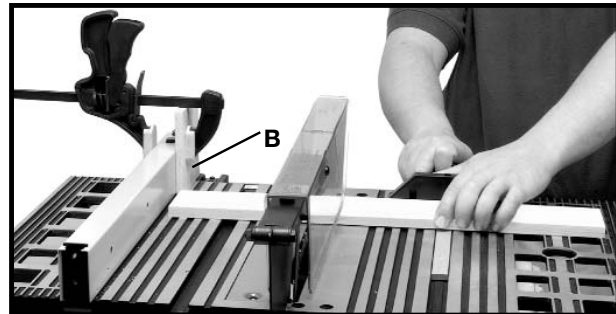

Fig. 42B
When cross-cutting a number of pieces to the same length, a block of wood (B) Fig. 42B can be clamped to the fence and used as a cut-off gage as shown in Fig. 42B. It is important that this block of wood always be positioned in front of the saw blade as shown. Once the cut-off length is determined, secure the fence and use the miter gage to feed the work into the cut. This block of wood allows the cut-off piece to move freely along the table surface without binding between the fence and the saw blade, thereby lessening the possibility of kickback and injury to the operator.
**⚠ CAUTION WHEN USING THE BLOCK (B) FIG. 42B, AS A CUT-OFF GAGE, IT IS VERY IMPORTANT THAT THE REAR END OF THE BLOCK BE POSITIONED SO THE WORK PIECE IS CLEAR OF THE BLOCK BEFORE IT CONTACTS THE BLADE.**